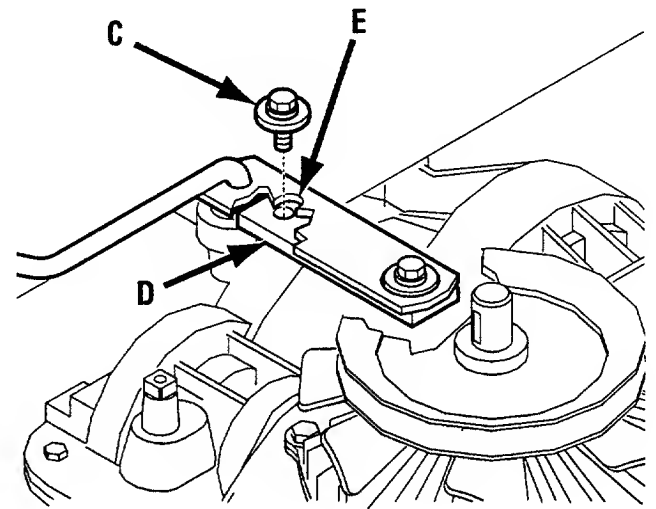

Fig. 6-20
- Adjust hydro control arm (D, Fig. 6-20) along slot (E) until rear wheels do not move.